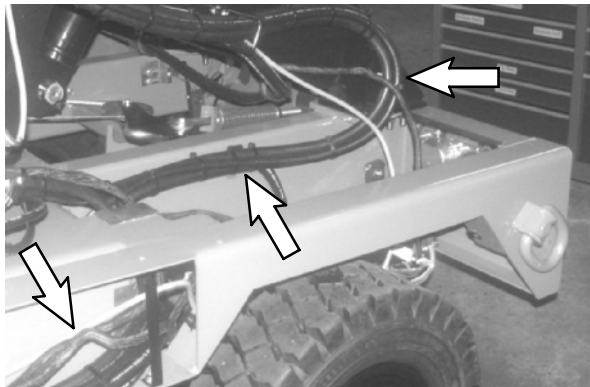

FIG. 29
46. Route the arrow stick cable assembly (2) along the wire harness, out the service channel, and to the hopper harness. Use cable ties (13) to secure the arrow stick cable assembly to the wire harness. Refer to Fig. 29.